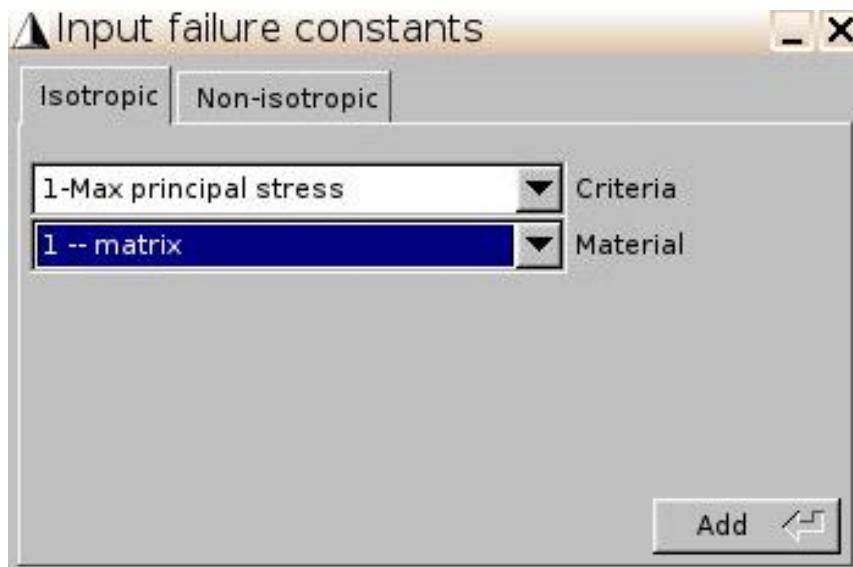
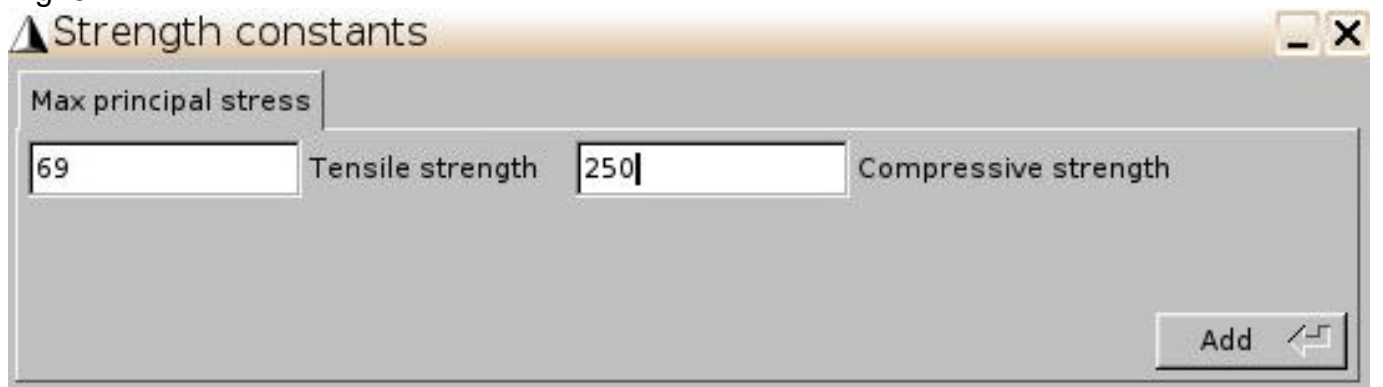
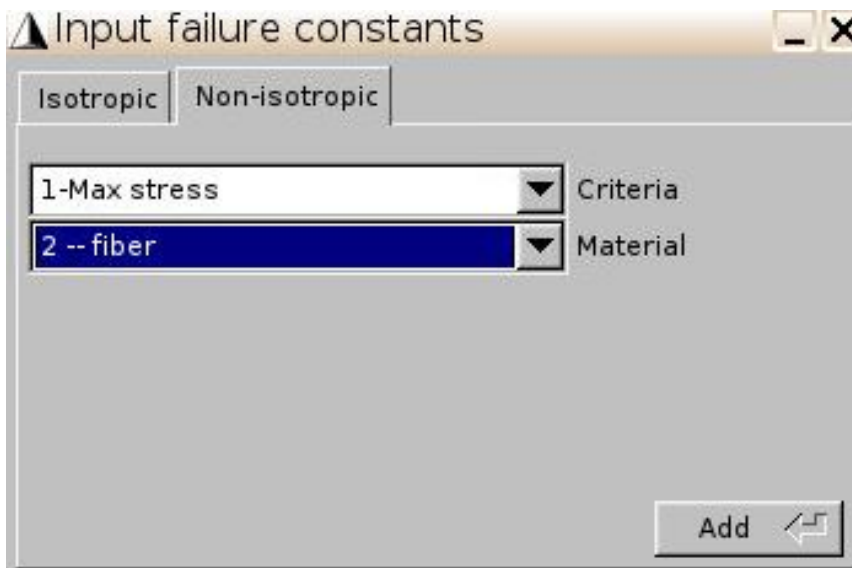

Fig. 8
Fig. 9
Fig. 10
- Click SwiftComp->Static failure->Input failure constants. Assign failure criterion to the matrix first (Fig. 8.) and input the failure constants (Fig. 9.). Repeat this step to define the fiber failure constants as shown in Fig. 10 and 11. Note that the fiber is non-isotropic material and we also assume some fictitious strength constants with big numbers.